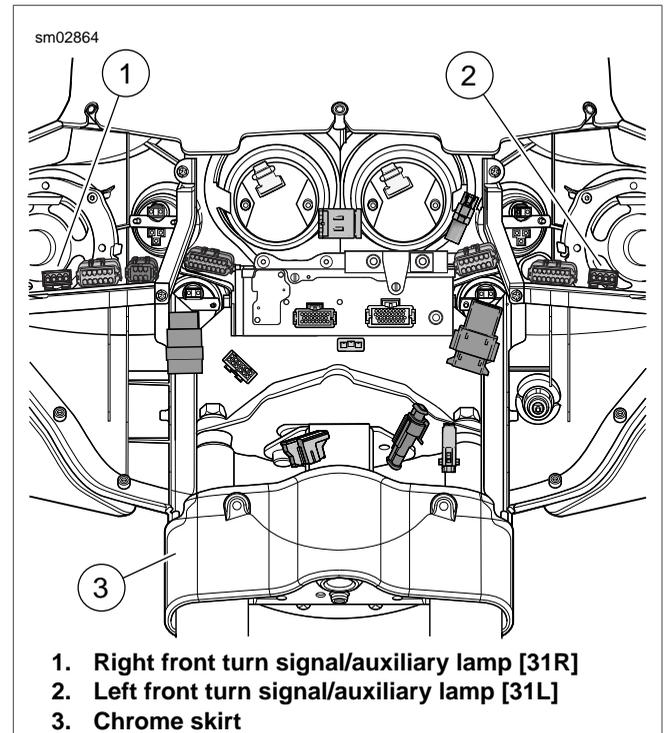

Figure 2-135. Inner Fairing (Front View)
2. Disconnect left and right front turn signal/auxiliary lamp connectors [31L/R], 4-place Multilocks, on T-studs at top of left and right fairing support braces (outboard side). See Figure 2-135.
5. Pull chrome skirt from inner fairing. See Figure 2-135.
24. Remove two screws from lower fork bracket. Install chrome skirt aligning thru holes with those in lower fork bracket. Reinstall screws. See Figure 2-135.